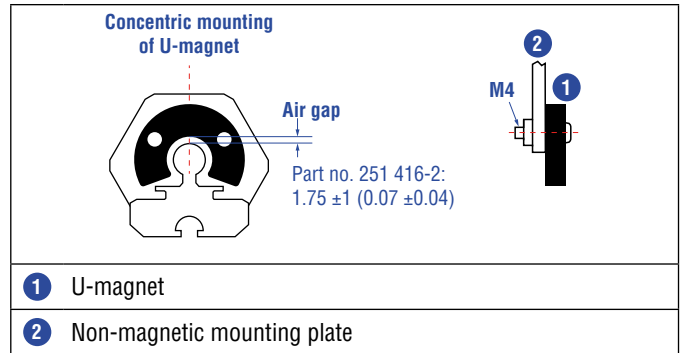
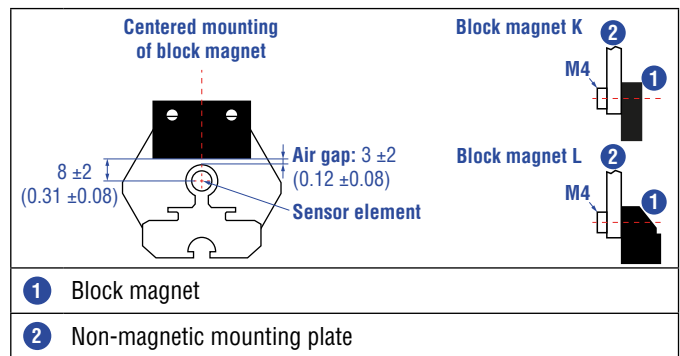

Fig. 35: Mounting of U-magnet (part no. 251 416-2)
Fig. 36: Mounting of block magnet K (part no. 251 298-2) and block magnet L (part no. 403 448)
- Mount block magnets centrally over the sensor rod or the sensor profile. The maximum permissible air gap must not be exceeded (Fig. 35/Fig. 36).